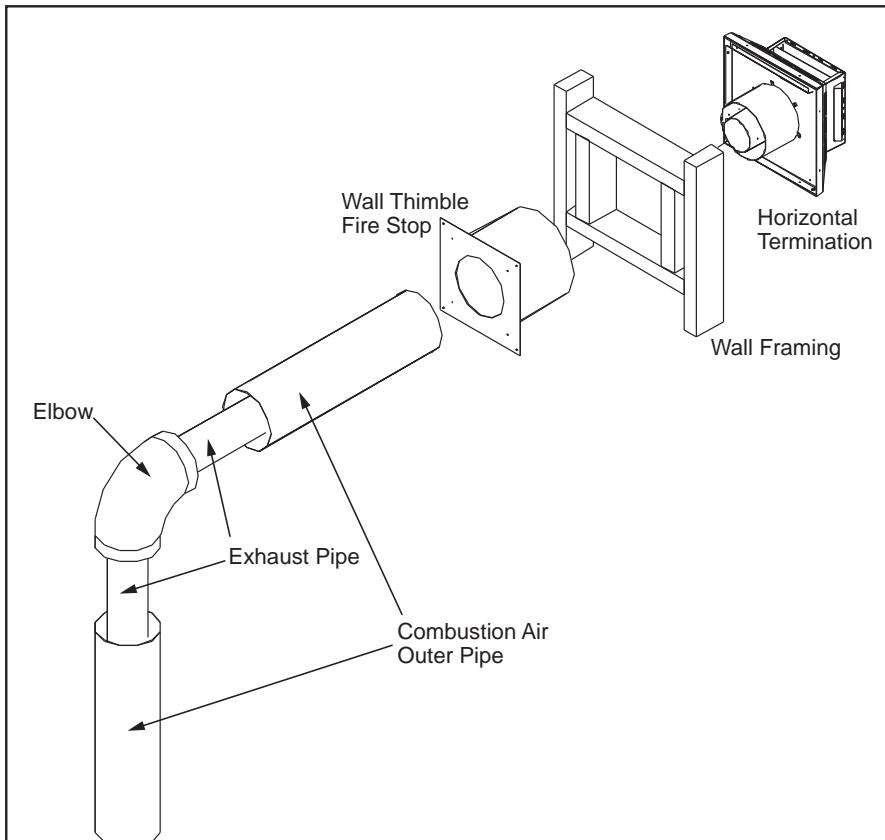

Figure 38: Horizontal Vent Termination
Step 3. With the pipe in the correct position and attached to the fireplace, mark the wall for a **10" (25.4 cm) x 10" (25.4 cm)** square hole (see Figure 38). The center of the hole should match the center line of the horizontal pipe. Cut and frame the hole in the exterior wall where the vent will be terminated. If the wall being penetrated is made of a non-combustible material (i.e. masonry or concrete) a **7" (17.8 cm)** hole is acceptable.
Step 9. Slip the storm collar over the pipe, and push it down to the top of the roof flashing as shown in Figure 38. Use the non-hardening sealant around the joint between the pipe and the storm collar.